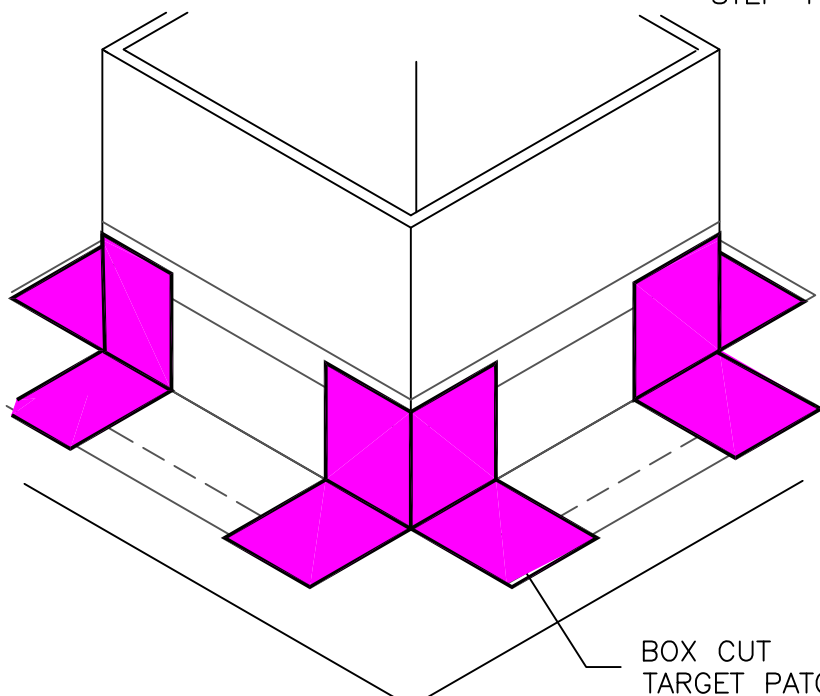

FIG. 14.1
STEP 13: TAKE THE FOUR REMAINING 9" X 9" W/P SHEET CUTS AND FOLD INTO QUARTERS (BLUE FOLD LINES) CUT ALONG THE GREEN CUTLINE IN FIG. 14.2. THIS IS FROM THE CENTER OF THE SQUARE, DIAGONALLY TO A CORNER. PLACE THE MITER CUT TARGET PATCH ONTO THE CORNER AS SHOWN IN FIG. 14.1. TOP COAT LIGHTLY WITH ADHESIVE.